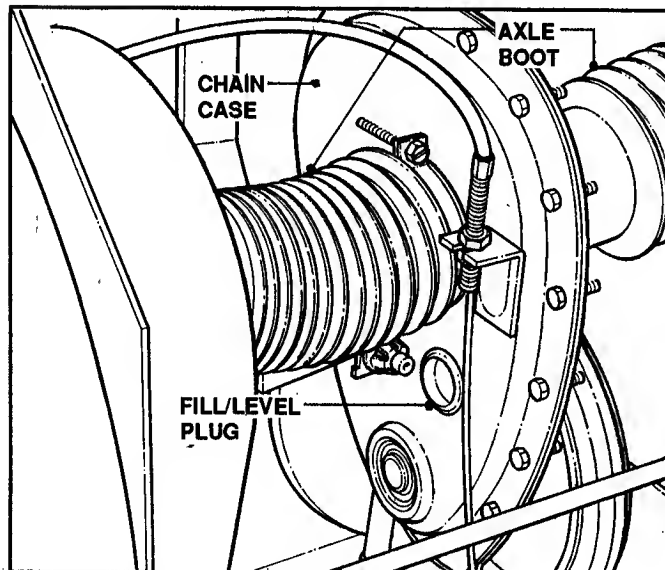

FIGURE 3.10
- (a) Check fill/level plug for damage. If signs of wear or cracks are visible, replace plug with new plug, part number 1-1024. See Figure 3.10.
- (b) To check lubricant in chain case, remove check/fill plug and look for lubricant on the internal components of the chain case. If no lubricant is visible, contact a SNAPPER dealer for service. See Figure 3.10.
Check axle boots for signs of wear or cracks. If cracks or wear is visible contact a SNAPPER dealer for service. Refer to Figure 3.10.